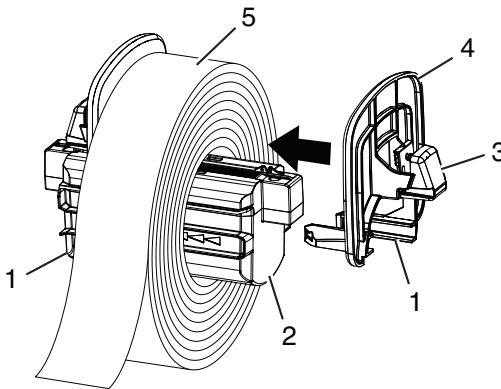

Figure 7, Material Supply Holder
2. Lift the material supply holder (**Figure 7, 2**) up and out of the frame.
There are sensors located under the side tabs (Figure 7, 1) on both sides of the material supply holder. Be careful not to damage these sensors or the label printer will be unable to read the material identification tag on the labels.
3. Press and hold the green release tab (**Figure 7, 3**) on the material supply holder and slide the end piece (**Figure 7, 4**) outward.
4. Slide the Brady labeling material roll onto the material supply holder and reinstall the end piece (**Figure 7, 4**), which will automatically center the roll on the holder.
5. Reinsert the material supply holder onto the frame. Ensure the sensors under the side tabs (**Figure 7, 1**) are properly seated in the frame so the printer will correctly read the material identification tag.